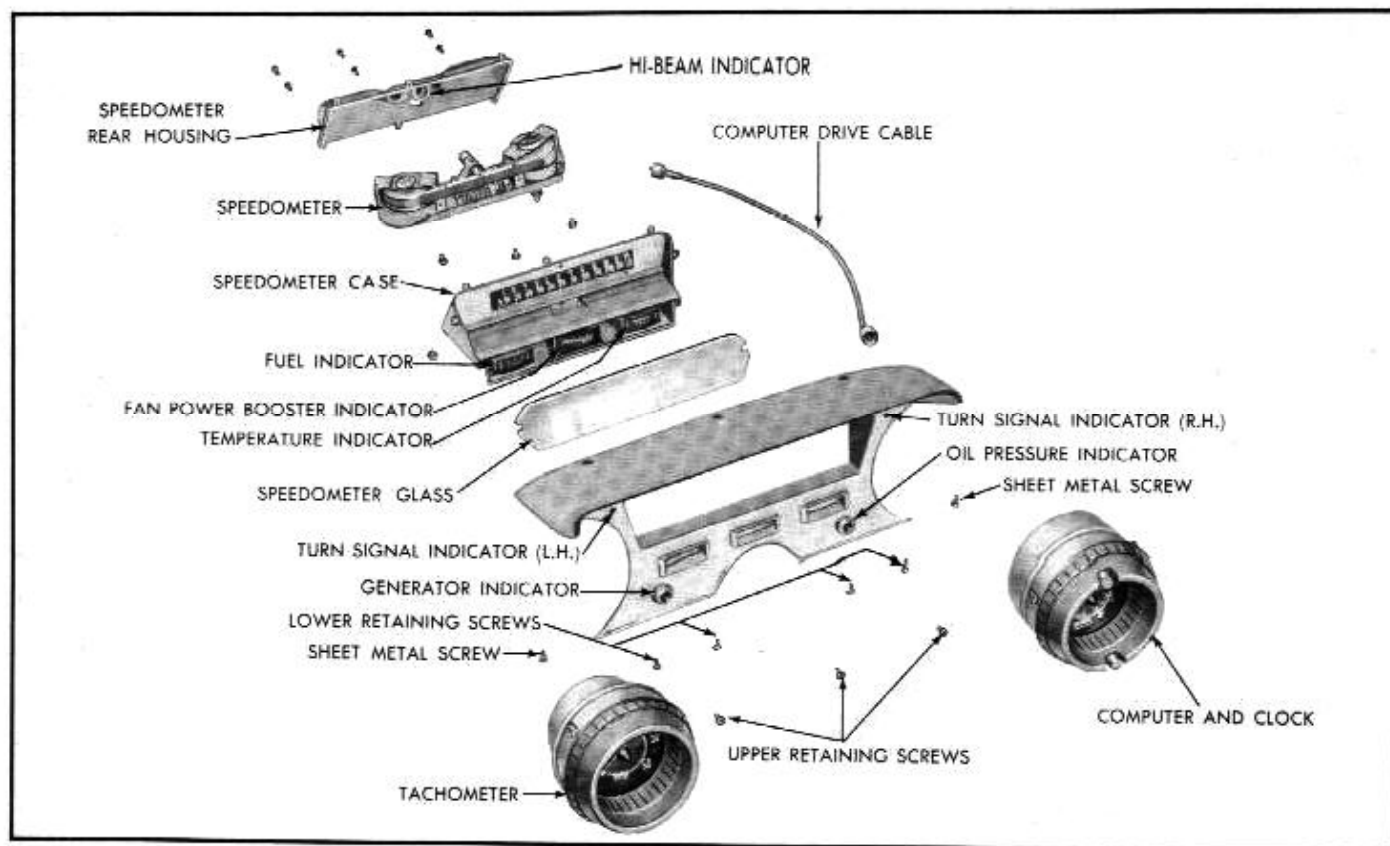

Fig. 11-15—Speedometer and Instrument Cluster—Turnpike Cruiser
2. Remove the three Phillips head screws located on top rear of speedometer cluster. See figure 11-15.
3. Remove the four Phillips head screws located just above the heater controls. See figure 11-15.